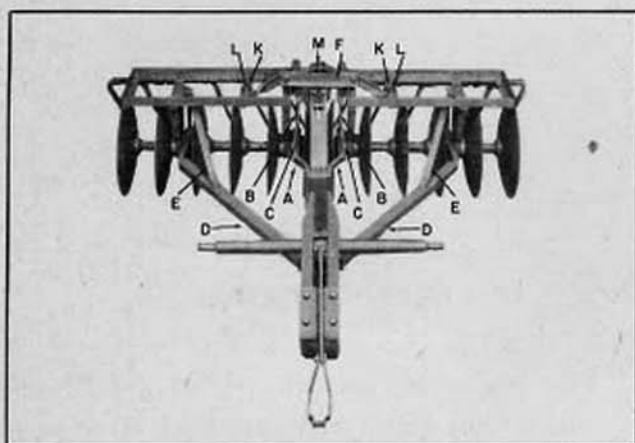

Fig. 12
1. Assemble center draft fork A-A to the draft pins B-B. (Fig. 12)